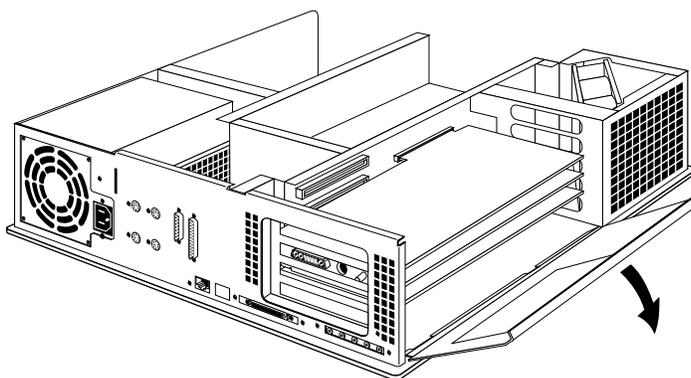

Figure 3 Opening the Metal Panel in Front of the EISA Slots
2. Open the metal panel located in front of the EISA slots by pulling up on the door and lowering it, as shown in Figure 3.